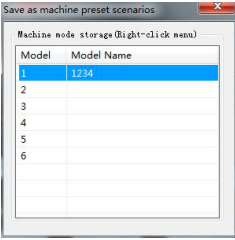

Figure 3.4.3
Step 3: Right click the blank box and a menu will pop up. Select and input the file name to be saved, such as (1234), and it will be saved directly.(Figure 3.4.3).